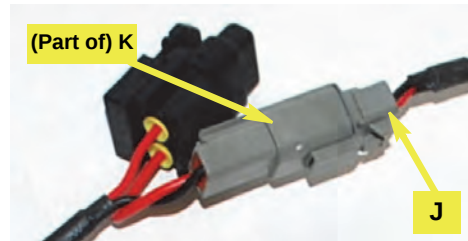

Figure 7c: Power cable to junction box cable
- d. Connect the gray connector of the power cable **J** (routed into the cab at step 7a) to the gray cable from the junction box **K** (Figure 7c).